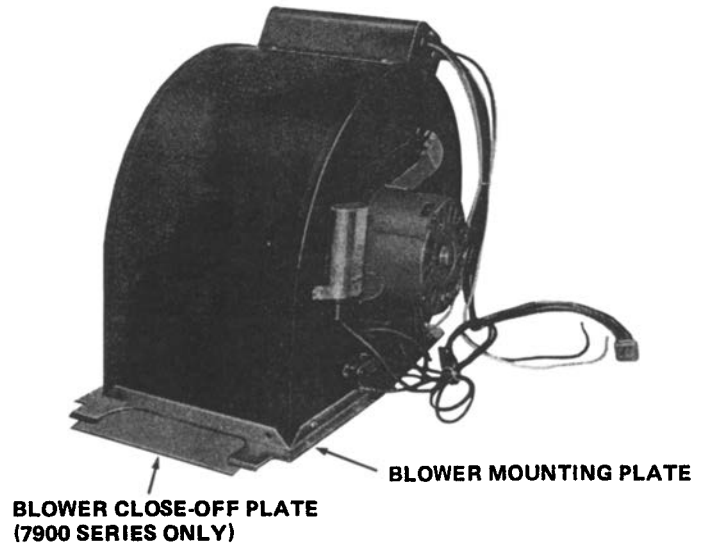

FIGURE 3.
4. Refer to FIGURE 3 below and install blower mounting plate and close-off plate (supplied with Blower Package) to bottom of the blower housing. Secure plates with screws provided. Close-off plate is not required for 7600B or 7700B Series furnaces.